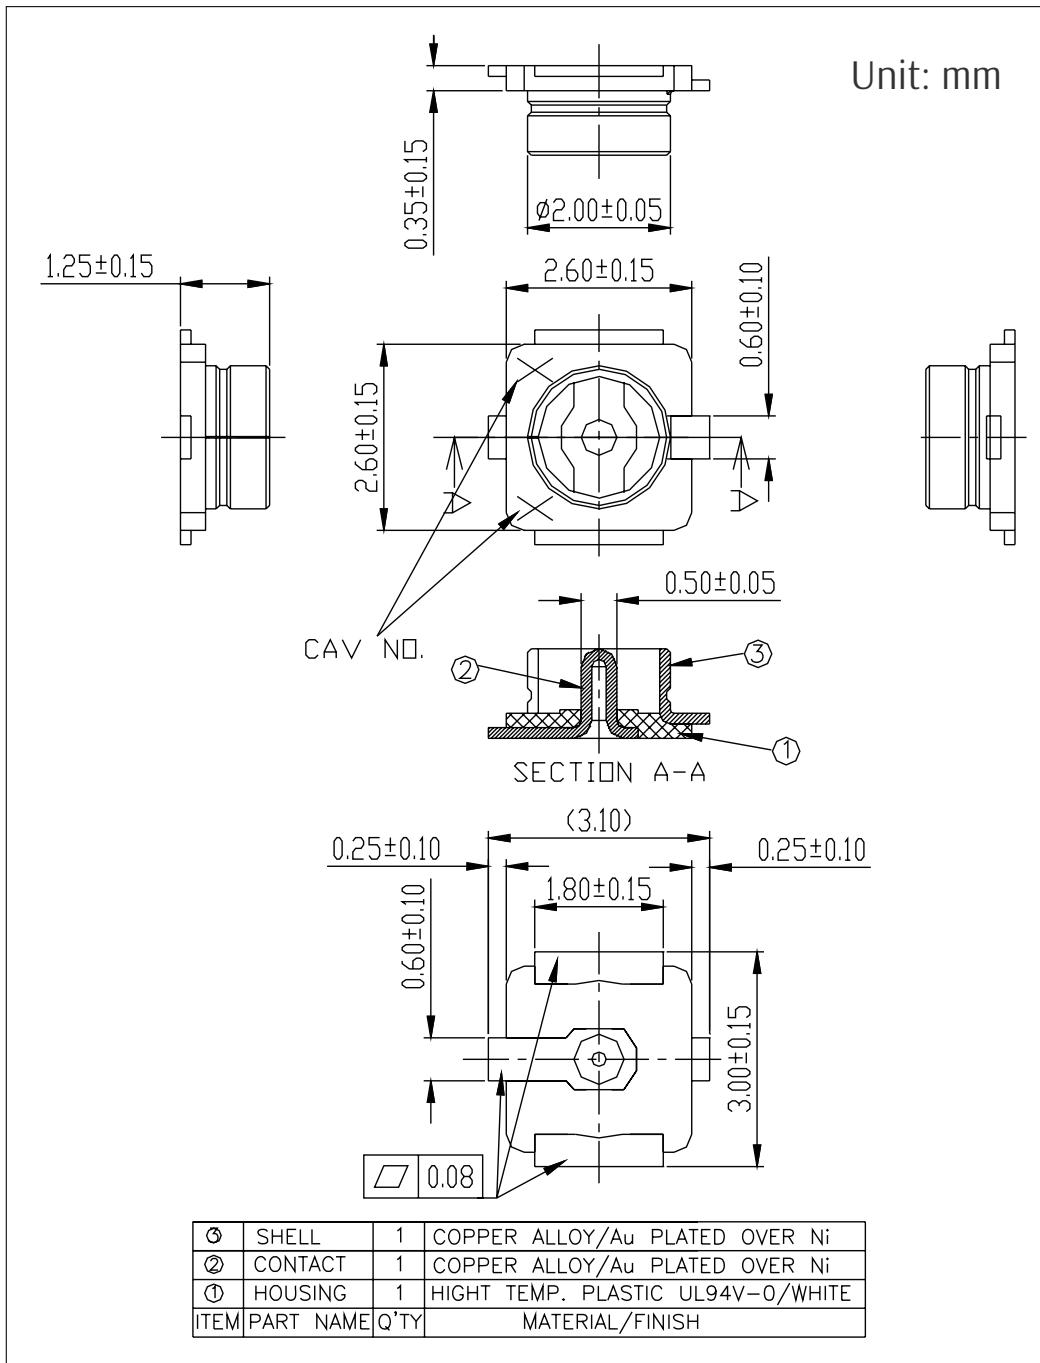

Figure 10-3. Dimensions of External Antenna Connector
ESP32-C6-WROOM-1U uses the first generation external antenna connector as shown in Figure 10-3 *Dimensions of External Antenna Connector*. This connector is compatible with the following connectors:
- The connector matches the specifications shown in Figure 10-3 *Dimensions of External Antenna Connector*